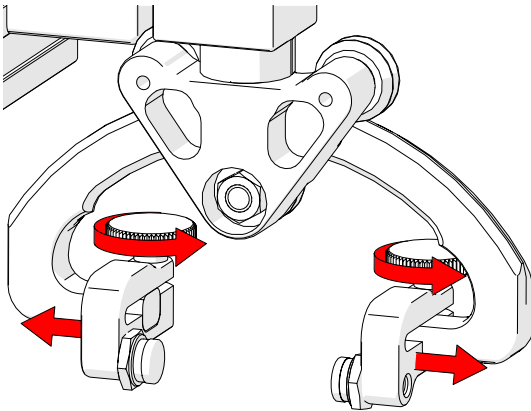

Fig. 207 - Loosen knobs and move arms
4. Loosen the two probe holder arm adjustment knobs and move the arms apart to create space for the probe (Fig. 207).